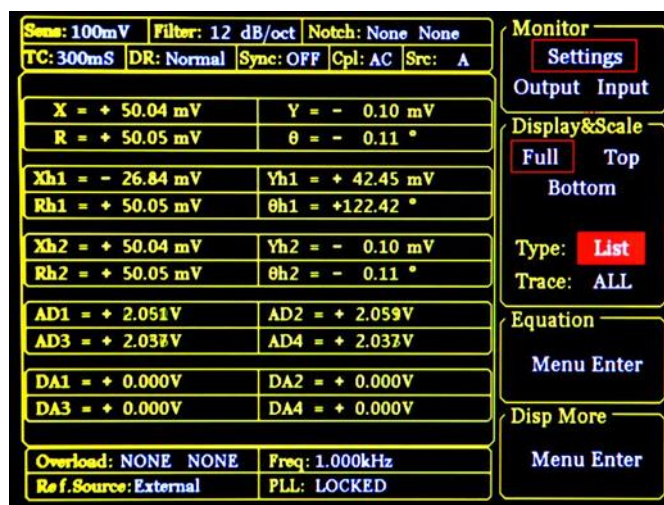

Fig.29 <Full>-<List> Display
4) <List>: display the value of the fundamental wave and two harmonics of the input signal and AUX_ADC, AUX_DAC in rear panel at the same time. The interface is shown in Fig.29.